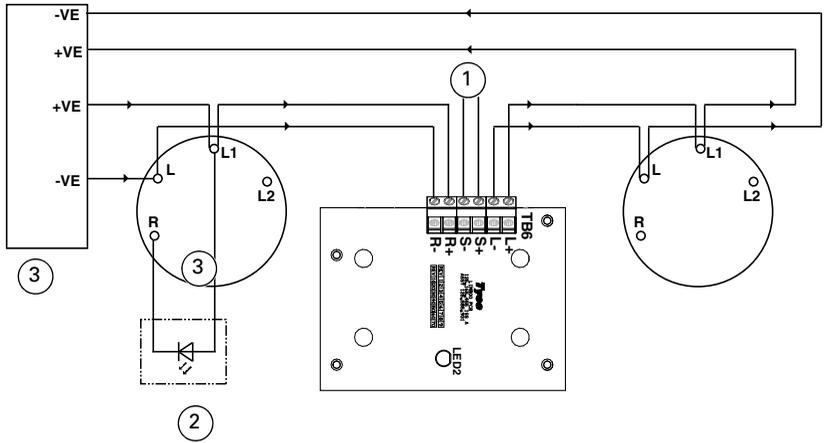

Fig. 6: LIM800 Line Isolator Module - Simplified Wiring Diagram
- Connect loop wiring . For LIM800 typical wiring configurations (see Fig. 6).